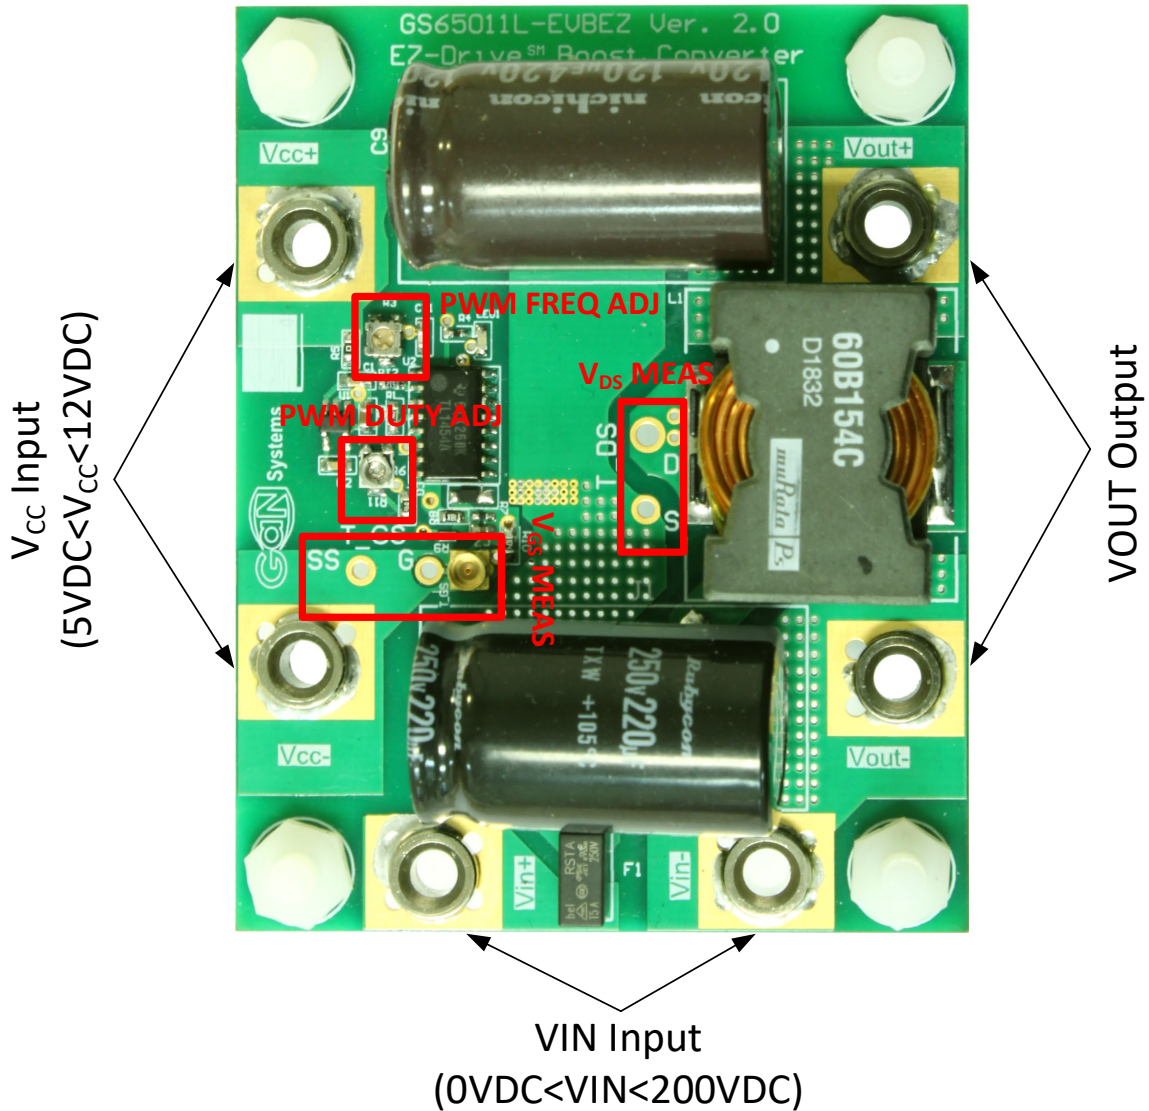
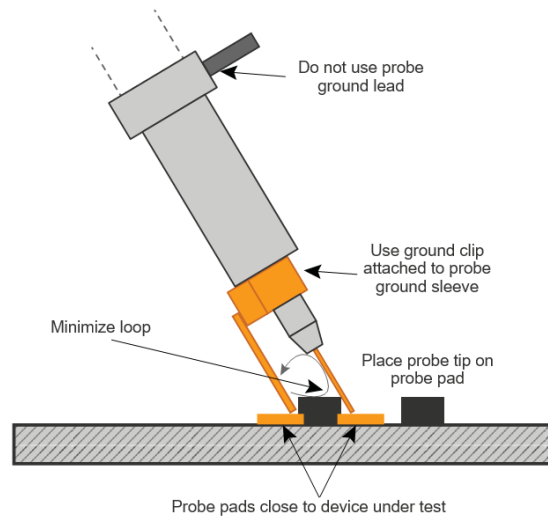

Figure 5 • GS65011-EVBEZ Test Setup
Figure 6 • Proper Oscilloscope Probe Measurement Technique
Figure 5 shows the test setup for the GS65011-EVBEZ evaluation board. Make sure that the specified safety precautions mentioned in “Safety Precautions” on page 2 are followed.
**Note:** When measuring the high frequency content switch node, care must be taken to avoid long ground leads. Measure the switch node by placing the oscilloscope probe tip through the Drain via and Source via (designed for this purpose). See **Figure 6** for proper probe technique and **Figure 5** for the location of  $V_{GS}$  and  $V_{DS}$  measure vias. Use a high voltage passive/differential probe for the  $V_{DS}$  measurement.